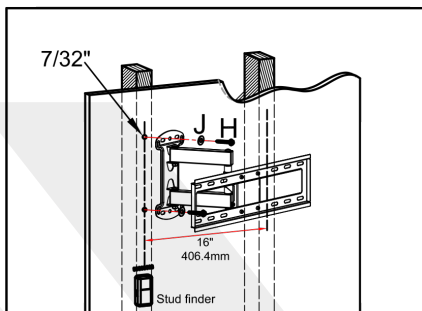

Figure 2
- Insert anchor (I) into each of the holes. Tap until flush with concrete surface
- Fix the wall plate by using the lag bolt screws (H) and washers (J) (Figure 2)